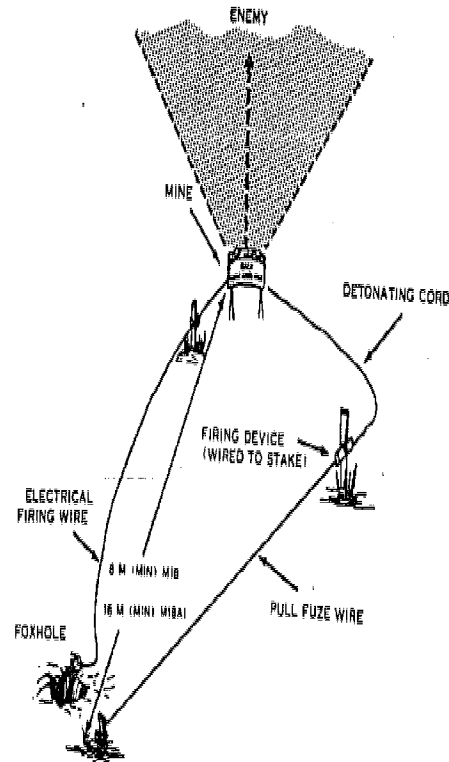

Figure 9. Diagram of the M18A1 antipersonnel mine installed for controlled nonelectrical and electrical detonation.
b. **Nonelectrical Firing.** The M18A1 mine is deliberately detonated by the operator pulling or cutting a tripwire attached to a nonelectrical firing device (fig. 9). A nonelectric blasting cap attached to the firing device and crimped to a length of detonating cord sets off the detonating cord. At the other end of the detonating cord,